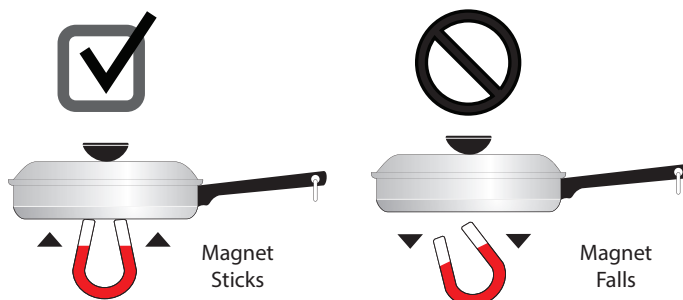

Figure 4: Magnet test
- **Stainless Steel** - Slow heat conductor. Durable, easy to clean, and resists staining. Some types of stainless steel will not work on an induction cooktop. Use the magnet test (see “Figure 4: Magnet test”) to check stainless steel cookware.
To see if a piece of cookware will work on your induction cooktop, try to stick a magnet to it (see Figure 4).